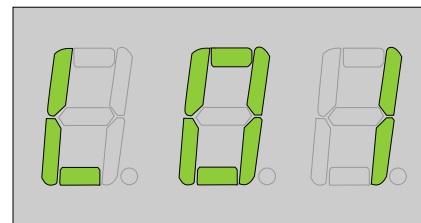

Figure 13: Local Mode
- **Local Channel Control Mode:** When in Local Channel Control Mode the display will display a "L" in the 100's column. Pressing the 1's and 10's button will cycle through 0 thru 9, which will allow you to set the level of the fixture from 0 to 99. **Figure 13**